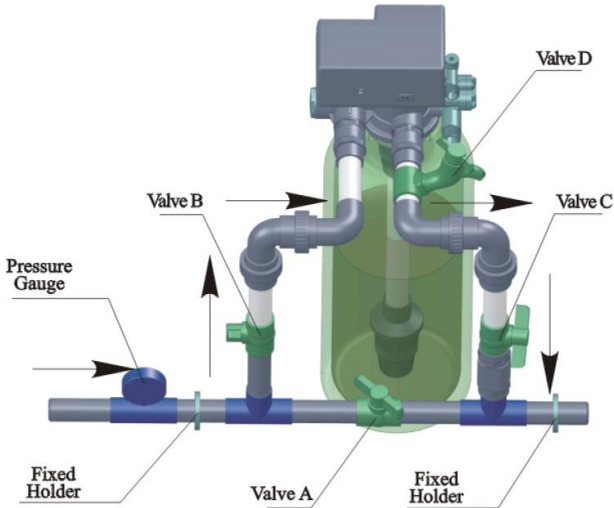

Figure1-2
② Pipeline connection
- a. As Figure1-2 shows, install a pressure gauge in water inlet.